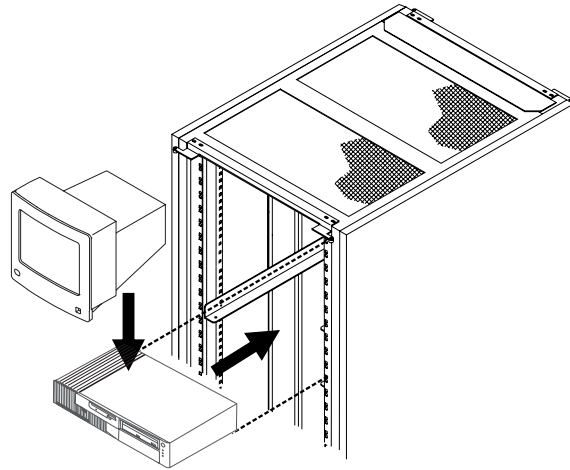

Figure 1-7. NAS and Display Installation in a 37 U Rack
2. ____ Refer to Figure 1-7 on page 1-7 and install the NAS on the brackets. If you have any problem to slide the NAS into the rack refer to Appendix C, "Installing the 6275 into the 37 U Rack" on page C-1 then continue with the next step.